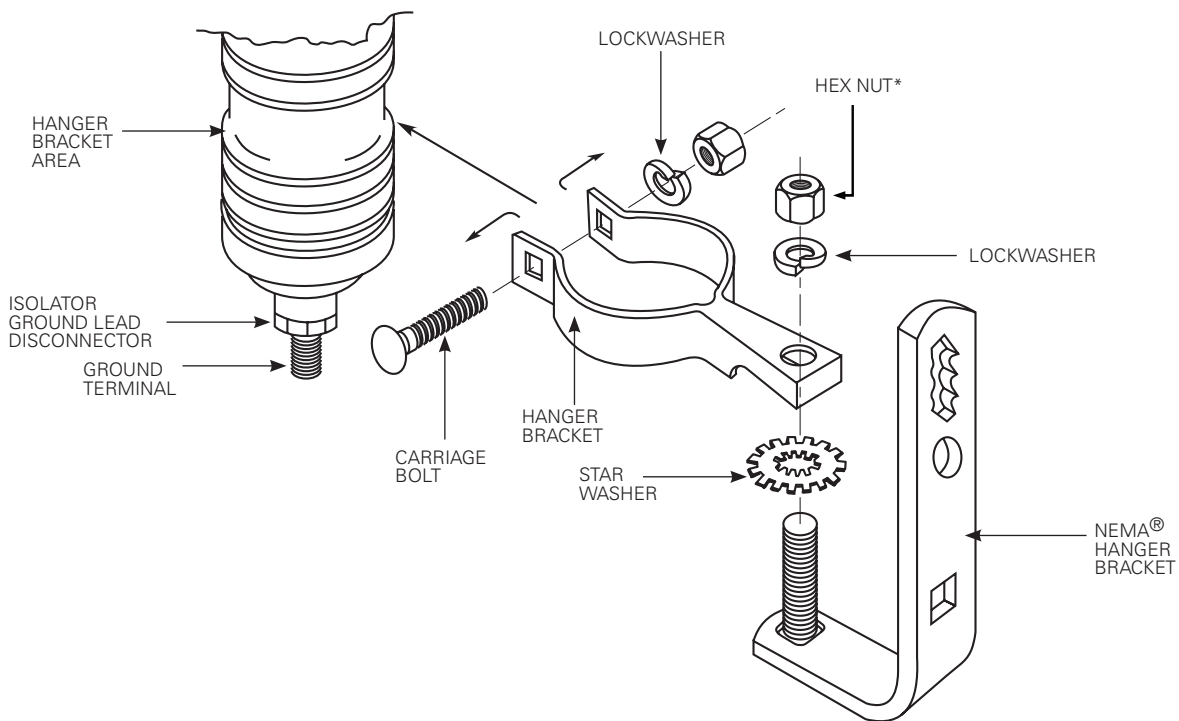

Figure 3. Installation of arrester to hanger bracket.
- Install all mounting hardware on the arrester by spreading the hanger bracket sufficiently to push over the arrester at the hanger location. Do not slide the hanger bracket onto the housing from either end – this can cause cracking/chipping of the porcelain skirts. Torque both hanger bracket hex nuts between 20 and 25 ft-lbs. See Figure 3.